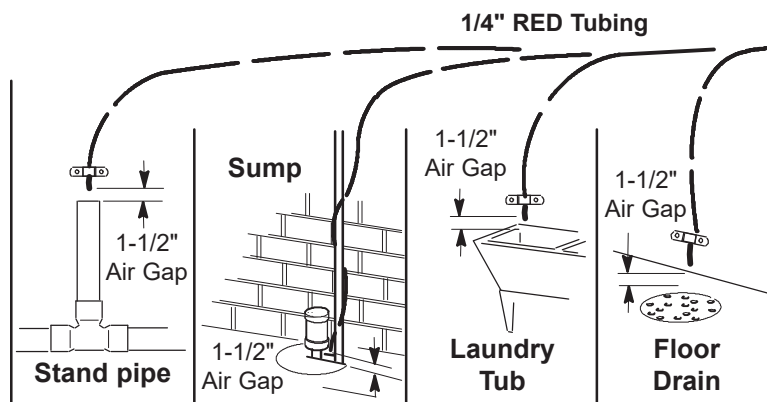

FIG. 11
Route the drain tubing to an existing drain in the house. A floor drain, laundry tub, standpipe, sump, etc. are suitable drain points. See Fig. 11. This type of drain is the preferred over the p-trap drain adapter.
4. Route the tubing to the drain point and secure at the end with a bracket (not included). See Fig. 11. Provide a 1-1/2" air gap between the end of the tube and the drain. See Fig. 11.